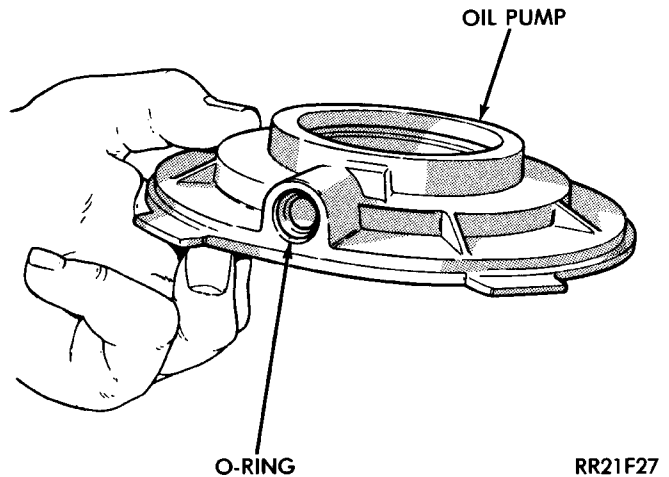
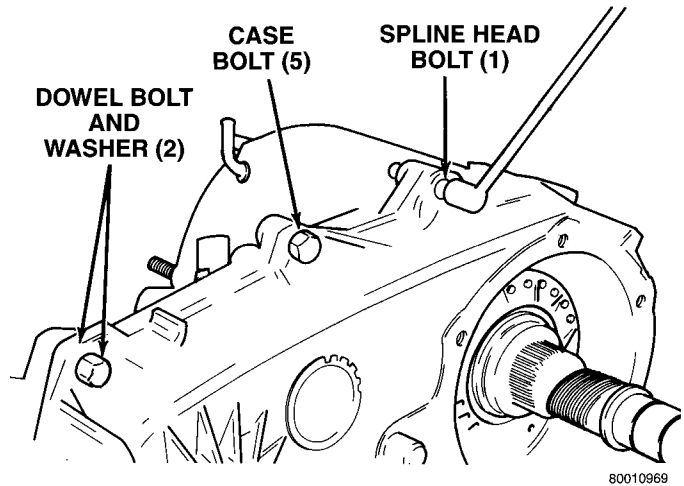

Fig. 16 Pickup Tube O-Ring Location
Fig. 17 Spline And Dowel Bolt Locations
- (10) Remove pickup tube O-ring from pump (Fig. 16) but do not disassemble pump; it is not a repairable part.
- (11) Remove seal from oil pump with pry tool.
- (12) Remove bolts attaching rear case to front case (Fig. 17). Note position of the two black finish bolts at each end of the case. These bolts go through the case dowels and require a washer under the bolt head.